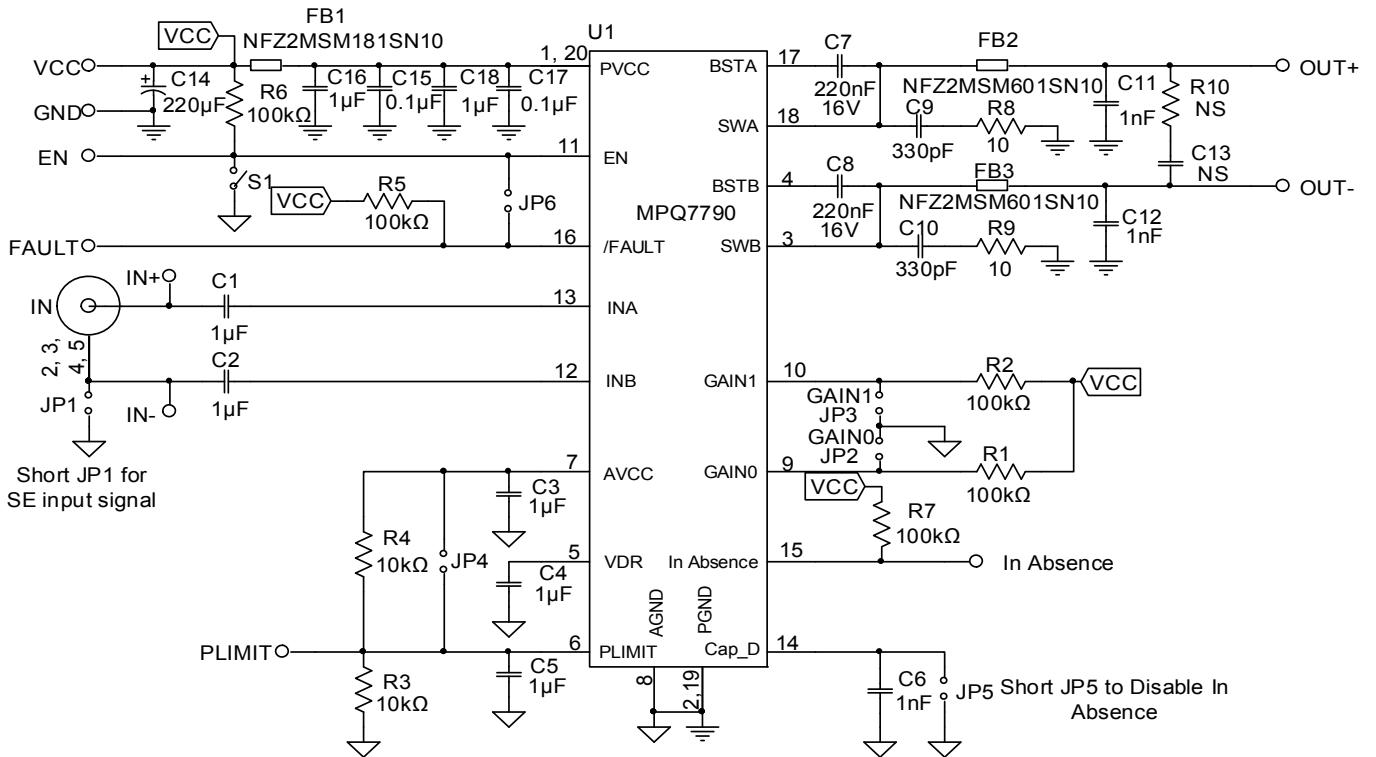

Figure 7: Typical Application Circuit
8) The recommended PCB layout is based on Figure 7.